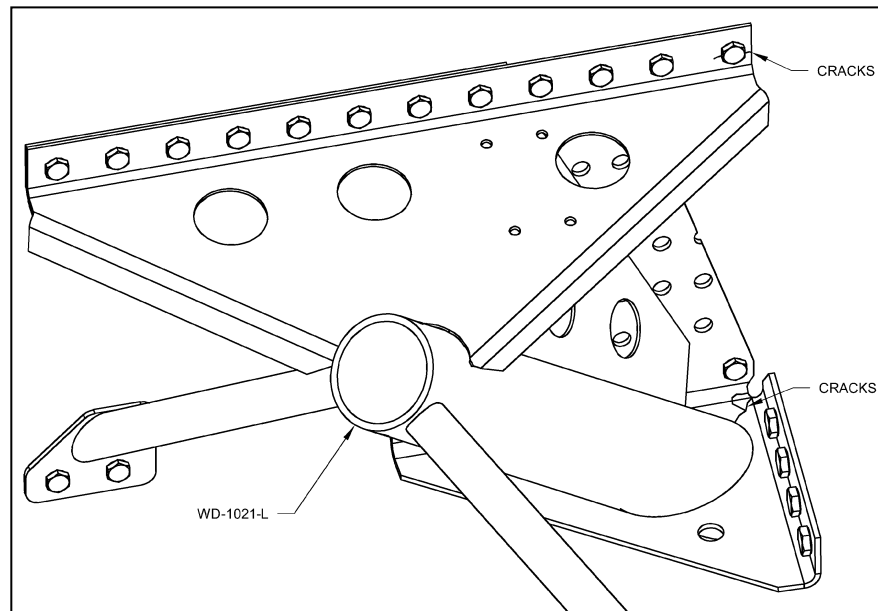
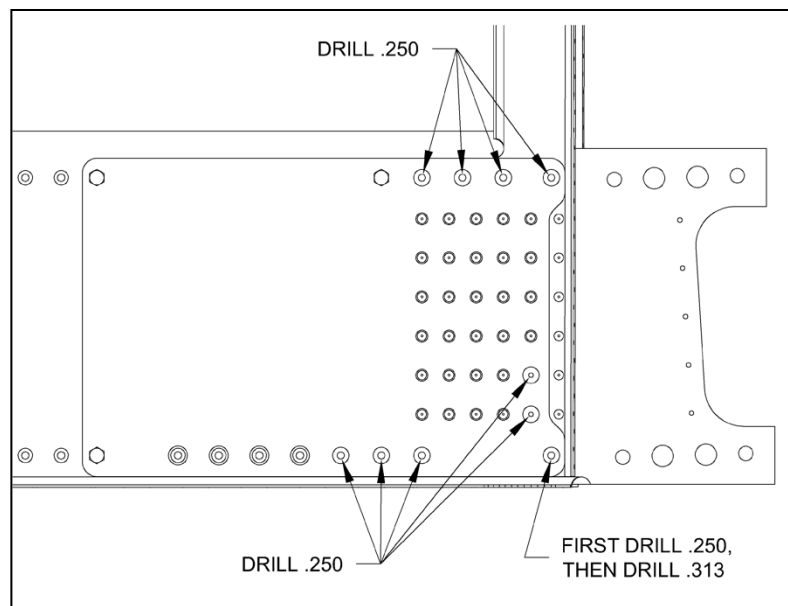

FIGURE 1: LANDING GEAR MOUNT CRACKS
FIGURE 5: DRILLING THE FWD CENTER SECTION BULKHEAD ASSEMBLY
Required Action: Per Van's Aircraft service letter SL-00033, inspect the WD-1021 Landing Gear Mounts for cracks in the corner plate of the gear mounts, and for cracks propagating from the top, outboard attachment bolt hole (see Figure 1). The front seats and underlying F-1067B Seat Floor Covers must be removed for this inspection.
This service information provides detailed instructions to owners that have reported cracks in their WD-1021 Landing Gear Mounts (see Figure 1) per SL-00033, and which have been reviewed and confirmed by Van's Aircraft's support team. Note that Van's Aircraft does not recommend replacing the WD-1021 parts on a completed airplane unless cracks are observed and confirmed through the support review process, and parts will be provided only if cracks are found.
Step 11: Remove the brake line and fuel line running forward of the WD-1021-L/R Landing Gear Mounts and remove the bulkhead fluid fitting (for the brake line) from the mounts. See KAI Page 36-2, Figures 1 and 2, and KAI Page 37-3, Figure 5.
Step 20: Drill all of the .250-inch holes indicated in Figure 5 through the Forward Center Section Bulkhead Assembly. Insert the reduced diameter end of the VA-00272 Drill Bushing into the drill template hole. Hold the drill bushing firmly against the drill template, then, while keeping the drill bit perpendicular to the face of the bulkhead, drill the existing hole in the center section to .250. Use an angle drill where necessary. Insert an AN4 bolt as each hole is drilled.
Step 21: After all the .250 holes have been drilled, insert the VA-00273 Drill Bushing into the bottom outboard hole (see Figure 5) in the drill template. Use an angle drill to drill the .250 hole up to .313. If the bit used with the angle drill is not long enough to drill entirely through the center section bar, after drilling as deep as possible with the drill bushing in place, remove the drill bushing and carefully finish the hole without it.
Step 46: Reinstall the bulkhead fluid fitting in the WD-1021-L/R-1 Landing Gear Mounts and reattach the brake lines. See KAI Page 36-2, Figures 1 and 2.